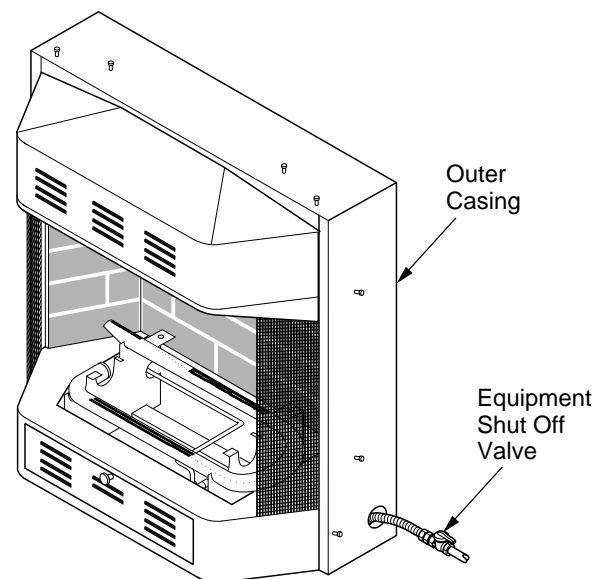

Figure 20 - Routing Flexible Gas Line
1. Route flexible gas line (provided by installer) from equipment shutoff valve into fireplace through side or rear access holes in outer casing (see Figure 20).